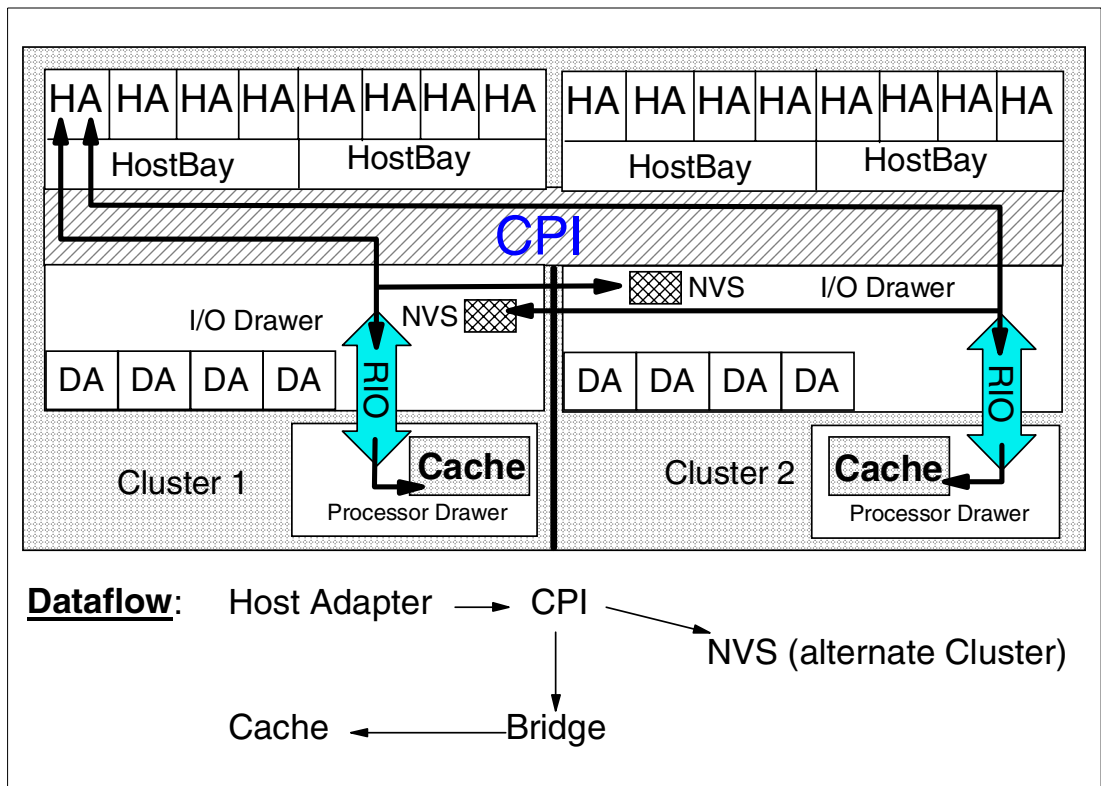

Figure 3-28 Data flow - host adapters
The host adapters (HA) are the external interfaces of the IBM TotalStorage Enterprise Storage Server Model 800 for server attachment and SAN integration. Each provides two ESCON or SCSI ports, or one FICON or Fibre Channel port. Each HA plugs into a bus in a host bay, and the bus is connected via the CPI to both clusters (Figure 3-28).